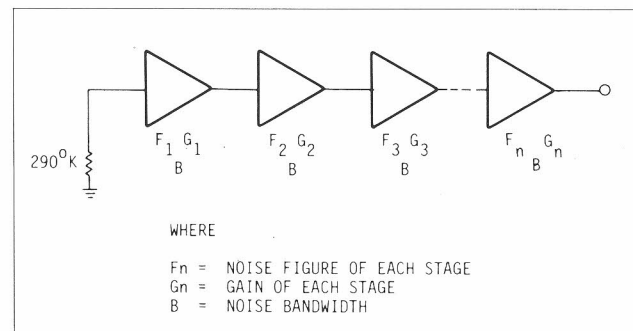

FIGURE 5. Amplifiers in Cascade
The calculation of the overall noise figure performance of a system is an equally important concept that must be understood by system designers. Let us consider a series of amplifiers in cascade as shown in Figure 5. Considering only the first amplifier which is characterized by its single sideband noise figure (F), gain (G) and noise bandwidth (B), the total noise power and its output (N_{T_0}) is: